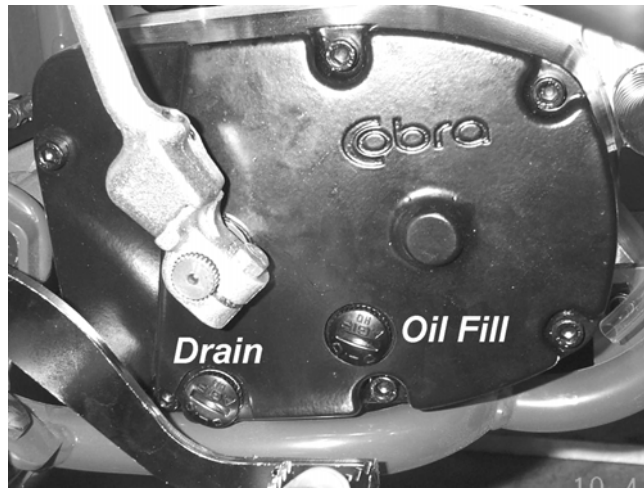

Figure 1
3. Remove the oil drain plug located on the right side of the engine, on the clutch cover, near the brake lever (figure 1).